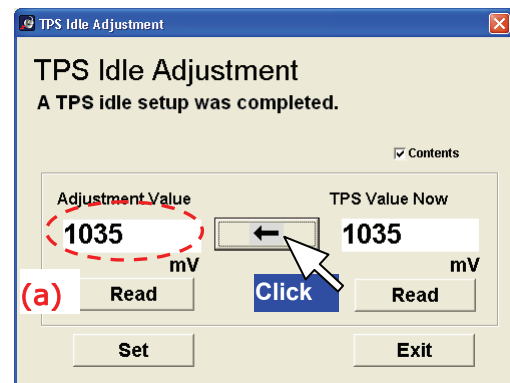

Fig. 9-5-4-3
- iv) Select the [**Read**] button (Fig. 9-5-4-3 (a)), and the current setting of the ECU will be displayed again.